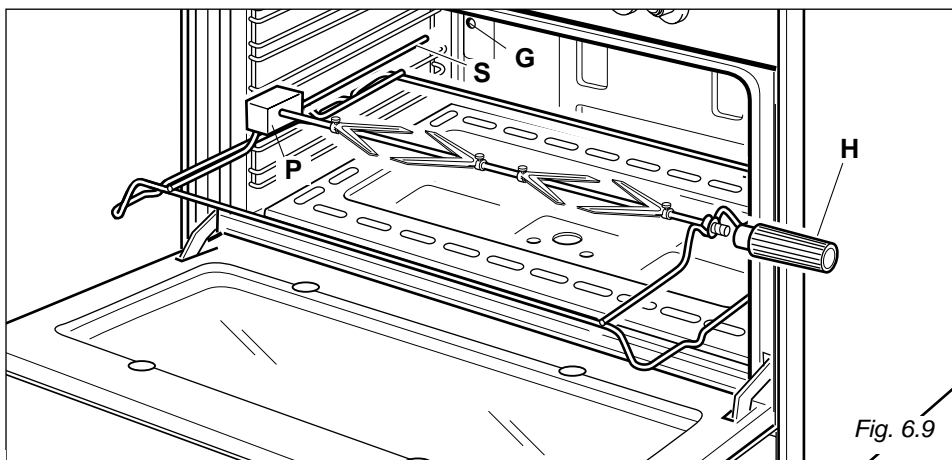

Fig. 6.9
- Insert the rod into the side gear opening “P” (fig. 6.9)